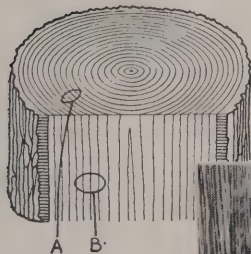

Fig. 1
Slow growth which depends on favorable climate, soil and drainage, causes the close annular growth rings (A), which, in turn, produce the fine, even grain (B), typical of all Ritter Appalachian Oak Flooring (Fig. 1), the use of which assures the most beautiful Oak floors.